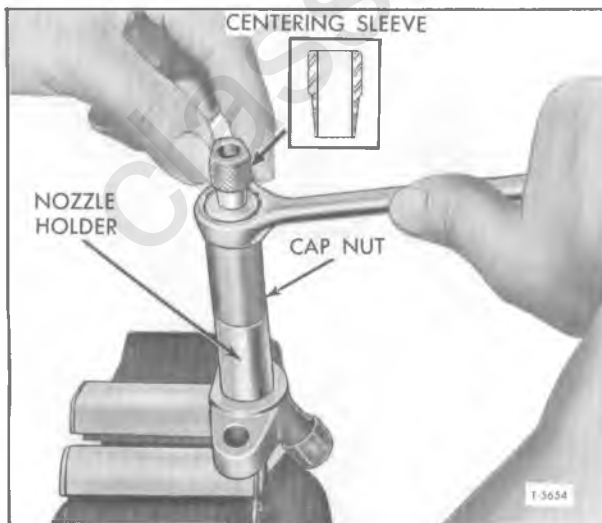

Figure 21—Use of Centering Sleeve to Locate Valve Body While Tightening Cap Nut
2. Mount nozzle holder (7) in holding fixture, then set valve body in place on nozzle holder dowel pins and screw nozzle cap nut (10) onto nozzle holder. Before tightening cap nut (10), use centering sleeve (part of kit J-21761-01) (fig. 21) over nozzle tip to locate the nozzle valve body in center of opening in cap nut. After nut has been tightened sufficiently to seat parts, remove centering sleeve